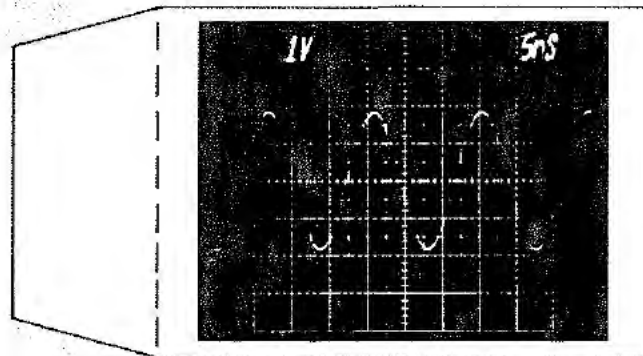
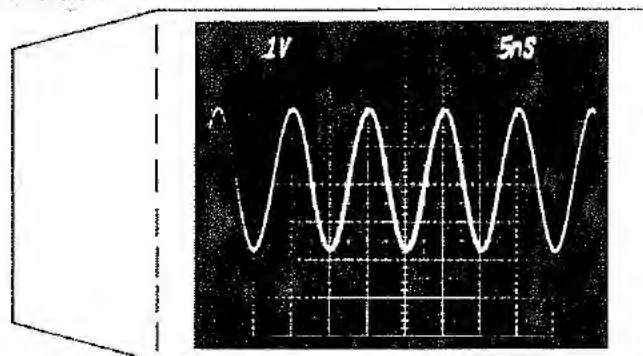

Fig. 6. Fast, low rep rate signals are difficult to view with a conventional (non-store) oscilloscope.
Fig. 7. The same signal as in Fig. 6 displayed using Variable Persistence storage.
Producing high contrast displays is the most outstanding capability of Variable Persistence storage. This allows you to view signals that are beyond the display capabilities of conventional (non-storage) or Bistable storage instruments. The dim conventional oscilloscope displays produced by fast, low rep rate signals (see Fig. 6) can be converted to bright, easy to view displays with Variable Persistence storage (see Fig. 7).
- Producing bright displays (Fig. 7).